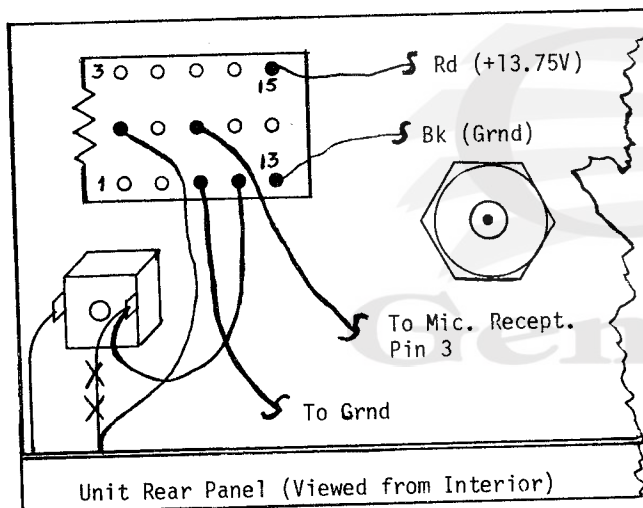

Figure 2-5. GMT 1000 Rear Panel
1. Refer to drawing of GMT 1000 rear panel, shown in Figure 2-5 below.
2. Locate and remove jumper which connects receiver audio from track on PC board to Ext. Speaker jack (jumper marked "XX" in Figure 2-5).
The method of grounding pin 3 is dependent upon type microphone being used: The HAND microphone grounds this pin via the mic. hanger and mic. mounting clip; the DESK-STYLE microphone grounds pin 3 through contacts on the Monitor Switch; whereas the HANDSET grounds pin 3 by means of switch contacts in the handset hanger. Refer to Figures 2-5 and 2-6.
NOTE: If a handset hanger AND tone squelch are used with the GMT 1000 transceiver, a wire must be connected internally between pin 8 of the rear-panel Accessory Plug and pin 3 of the mic. receptacle as shown in Figure 2-5.